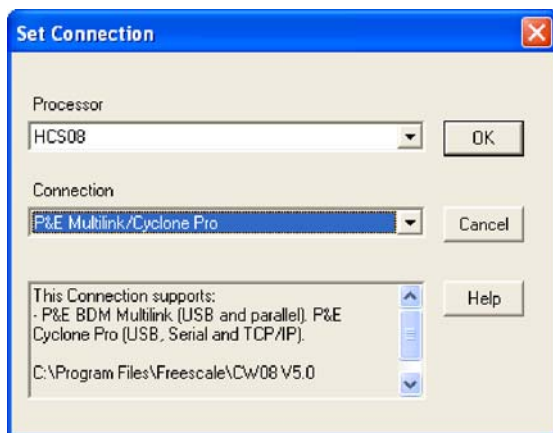

FIGURE 11. CODE WARRIOR SIMULATOR SET CONNECTION
2. Select *Set Connection* from the Component menu. The *Set Connection* dialog box appears (see Figure 11).